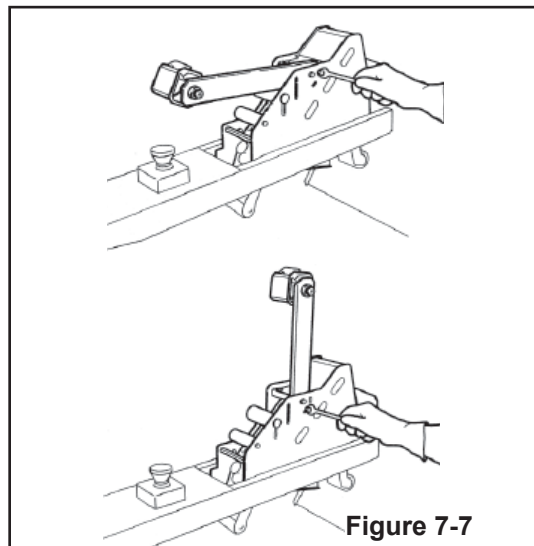

Figure 7-7
10. Ensure that the tape drum bracket assembly (located on the upper and lower taping heads) is mounted vertically, as shown in **Figure 7-7**.